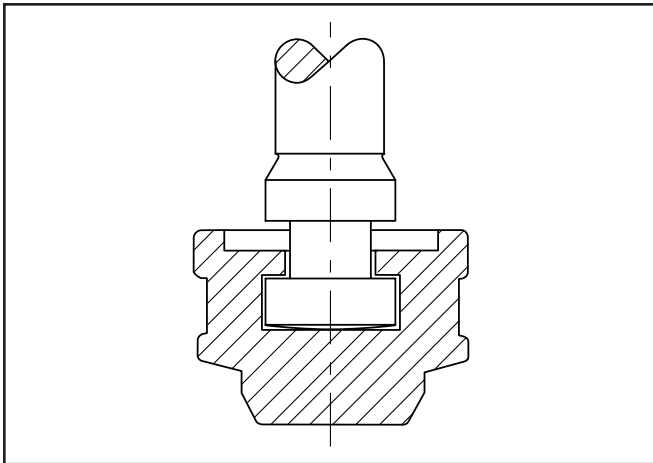

Figure 7.1A Stem disc contact area
3. Contact between the valve disc and stem is made by a radius on the end of the valve stem (*Figure 7.1A*), which is designed to give center loading for the disc. If particles get trapped between the end of the valve stem and the disc, the center loading of the stem can be shifted and the disc will not seat tightly. The contact surfaces of the stem and the disc must be checked first on leaky valves in order to ensure that the stem-disc contact is in proper condition.